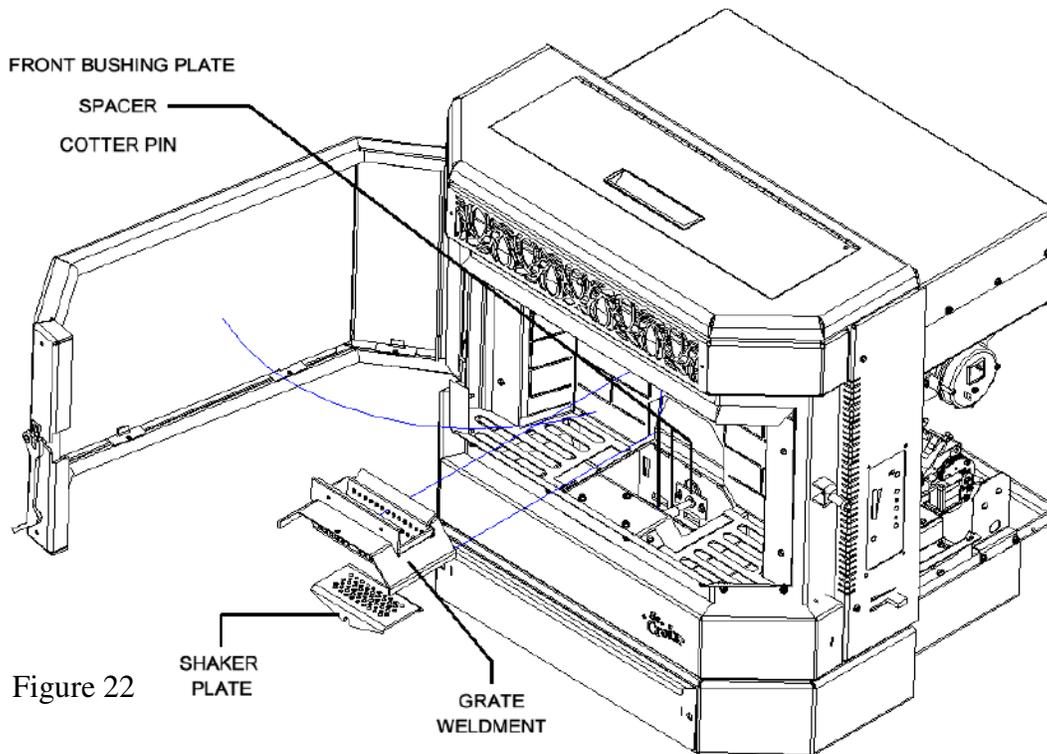

Figure 22
1. Check Grate Weldment and Shaker Plate (See figure 22 on the following page) to determine if holes are plugged. Clean as needed. With proper precautions the grate may be partially cleaned while the stove is hot. Follow these steps:
2. **Grate Weldment and Shaker Plate.** Clean Grate Weldment and Shaker Plate holes whenever needed. Remove the Burnpot and use a small metal object (Nail, Drill Bit, etc) to clean out plugged holes. (*See Figure 22*). The Grate Weldment and Shaker Plate holes can also be cleaned without removing them by using a small steel brush to clean the holes.